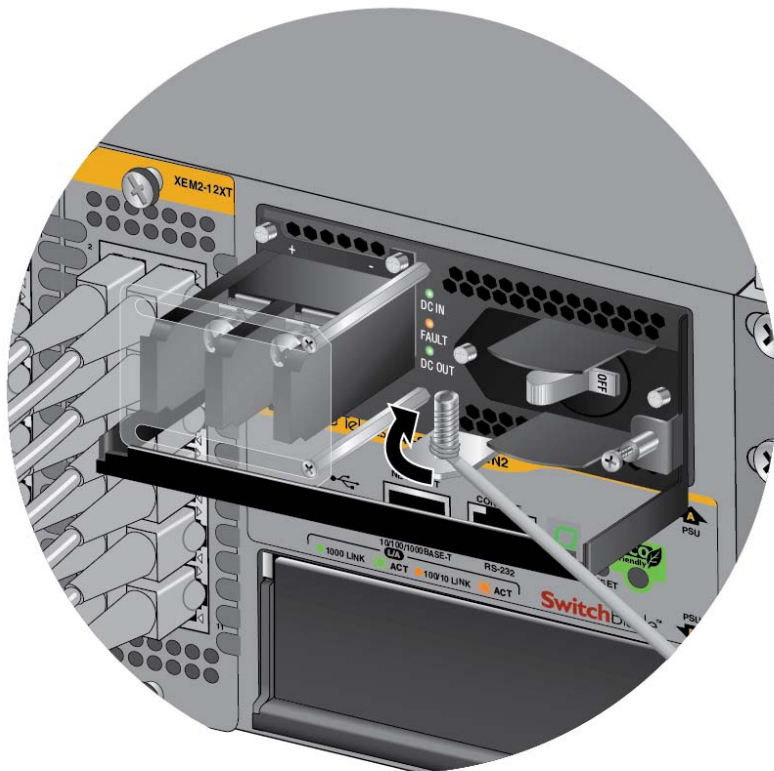

Figure 59. Attaching the Bare Grounding Wire to the Grounding Post
4. Wrap the grounding wire clockwise around the base of the grounding post, as shown in Figure 59.